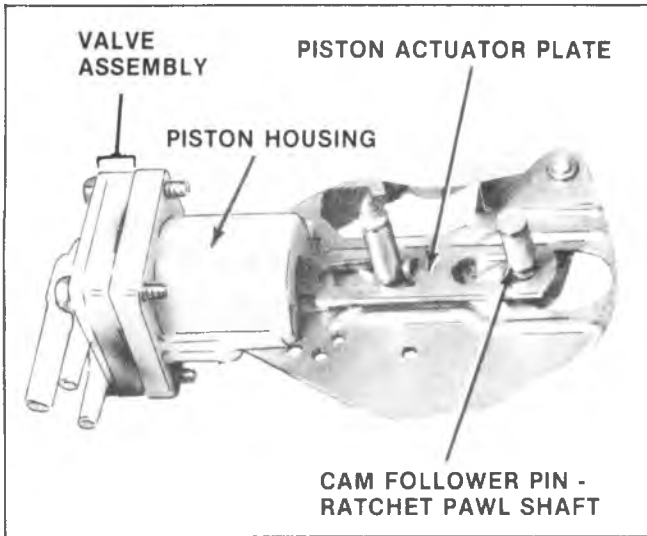

Fig. 8-22-Washer Valve Assembly
2. The tang on the piston actuating plate is resting once more against the ramp on the lower side of the ratchet gear (Fig. 8-22).